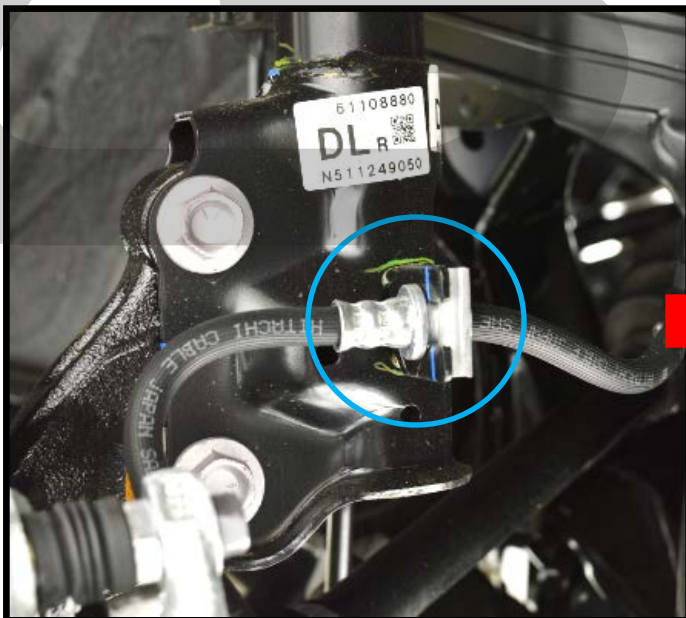

Figure 1b
- e) Remove the brake line from the strut. Use a flathead screwdriver to remove the brake line clip. **Blue circles in Figure 1b & 1c.**